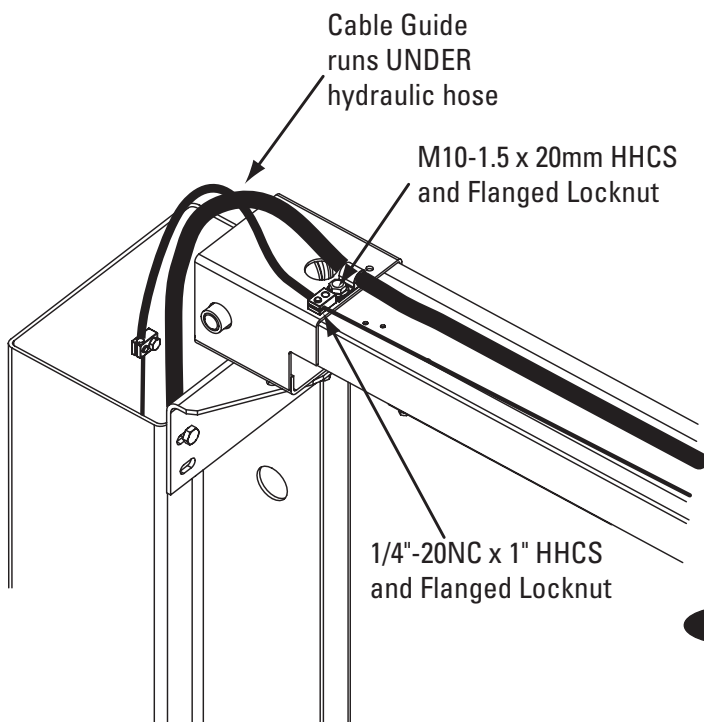
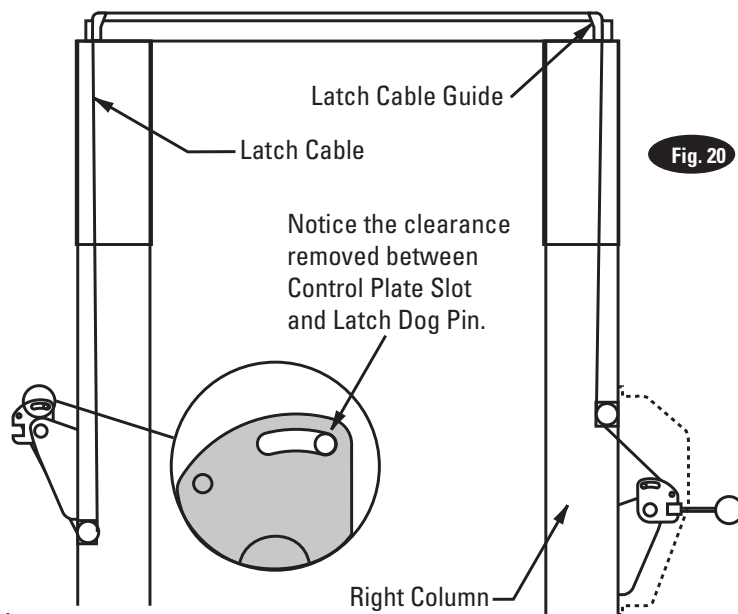
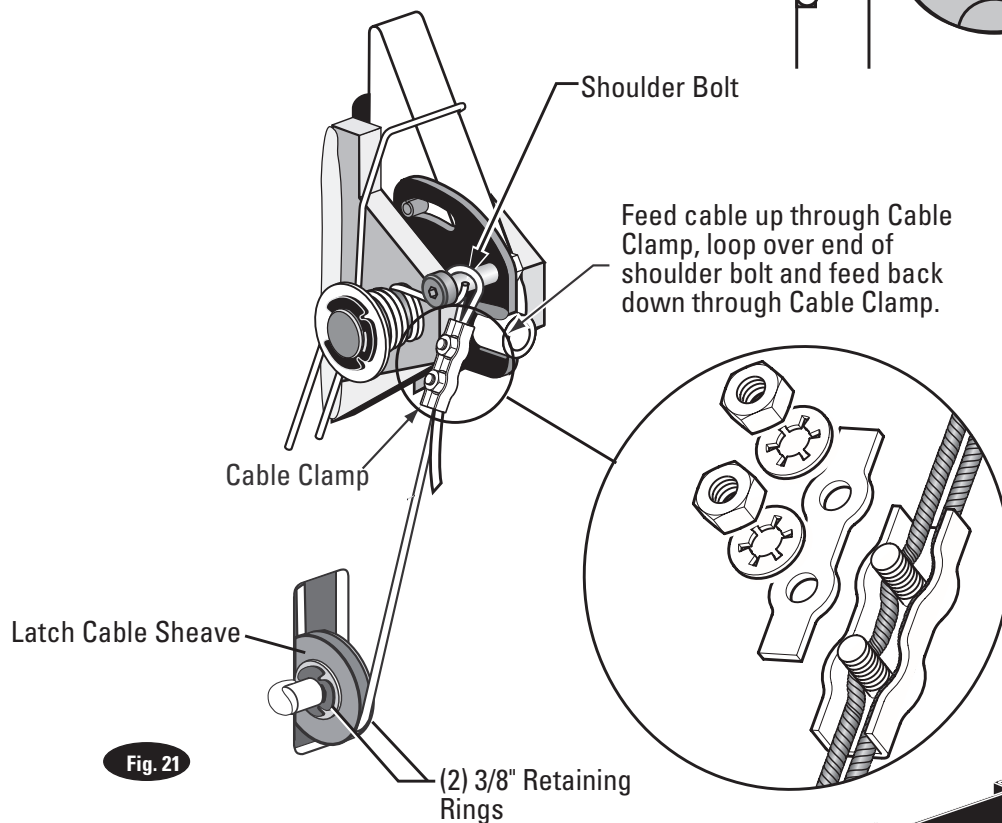

Fig. 18a
Fig. 20
Fig. 21
**NOTE:** Overhead hose goes over top end of overhead assembly, Fig. 14 & Fig. 18a & Fig. 18b.
- C) Attach latch cable conduit guide brackets to overhead as shown, Fig. 18a & Fig. 18b. Always use the holes on the approach side of the lift. HHCS should be in hole nearest the center of the overhead, Fig. 18b.
- D) Route cable up inside column and through the latch cable guide, Fig. 18a & Fig. 20.
- E) Continue routing cable to the left column latch cable guide, Fig. 18a & Fig. 20, routing the cable through the left column latch cable guide, Fig. 18a.
- F) Bring the cable down inside the left column and feed the end of the cable through the lower latch cable sheave slot so that the cable is now back outside the column, Fig. 21.
- G) Route cable under the bottom side of the latch cable sheave, Fig. 21.
- I) Insert cable in cable clamp along one side, loop around shoulder screw and back down, inserting cable along other side of cable clamp, Fig. 21. Place top back on clamp, barely tightening.
- J) Next, pull the control plate down, Fig. 20 & Fig. 21, to eliminate any clearance between the control plate slot and the latch dog pin, Fig. 20.
**17. Electrical:** Have a certified electrician run appropriate power supply to motor, Fig. 20 & 21. Size wire for 20 amp circuit. See Motor Operating Data Table.
**IMPORTANT:** Use separate circuit for each power unit. Protect each circuit with time delay fuse or circuit breaker. For single phase 208-230V, use 20 amp fuse. Three phase 208-240V, use 20 amp fuse. For three phase 400V and above, use 10 amp fuse. For three phase 380V use 16 amp fuse. For wiring see Fig. 20 & Fig. 21. All wiring must comply with NEC and all local electrical codes.